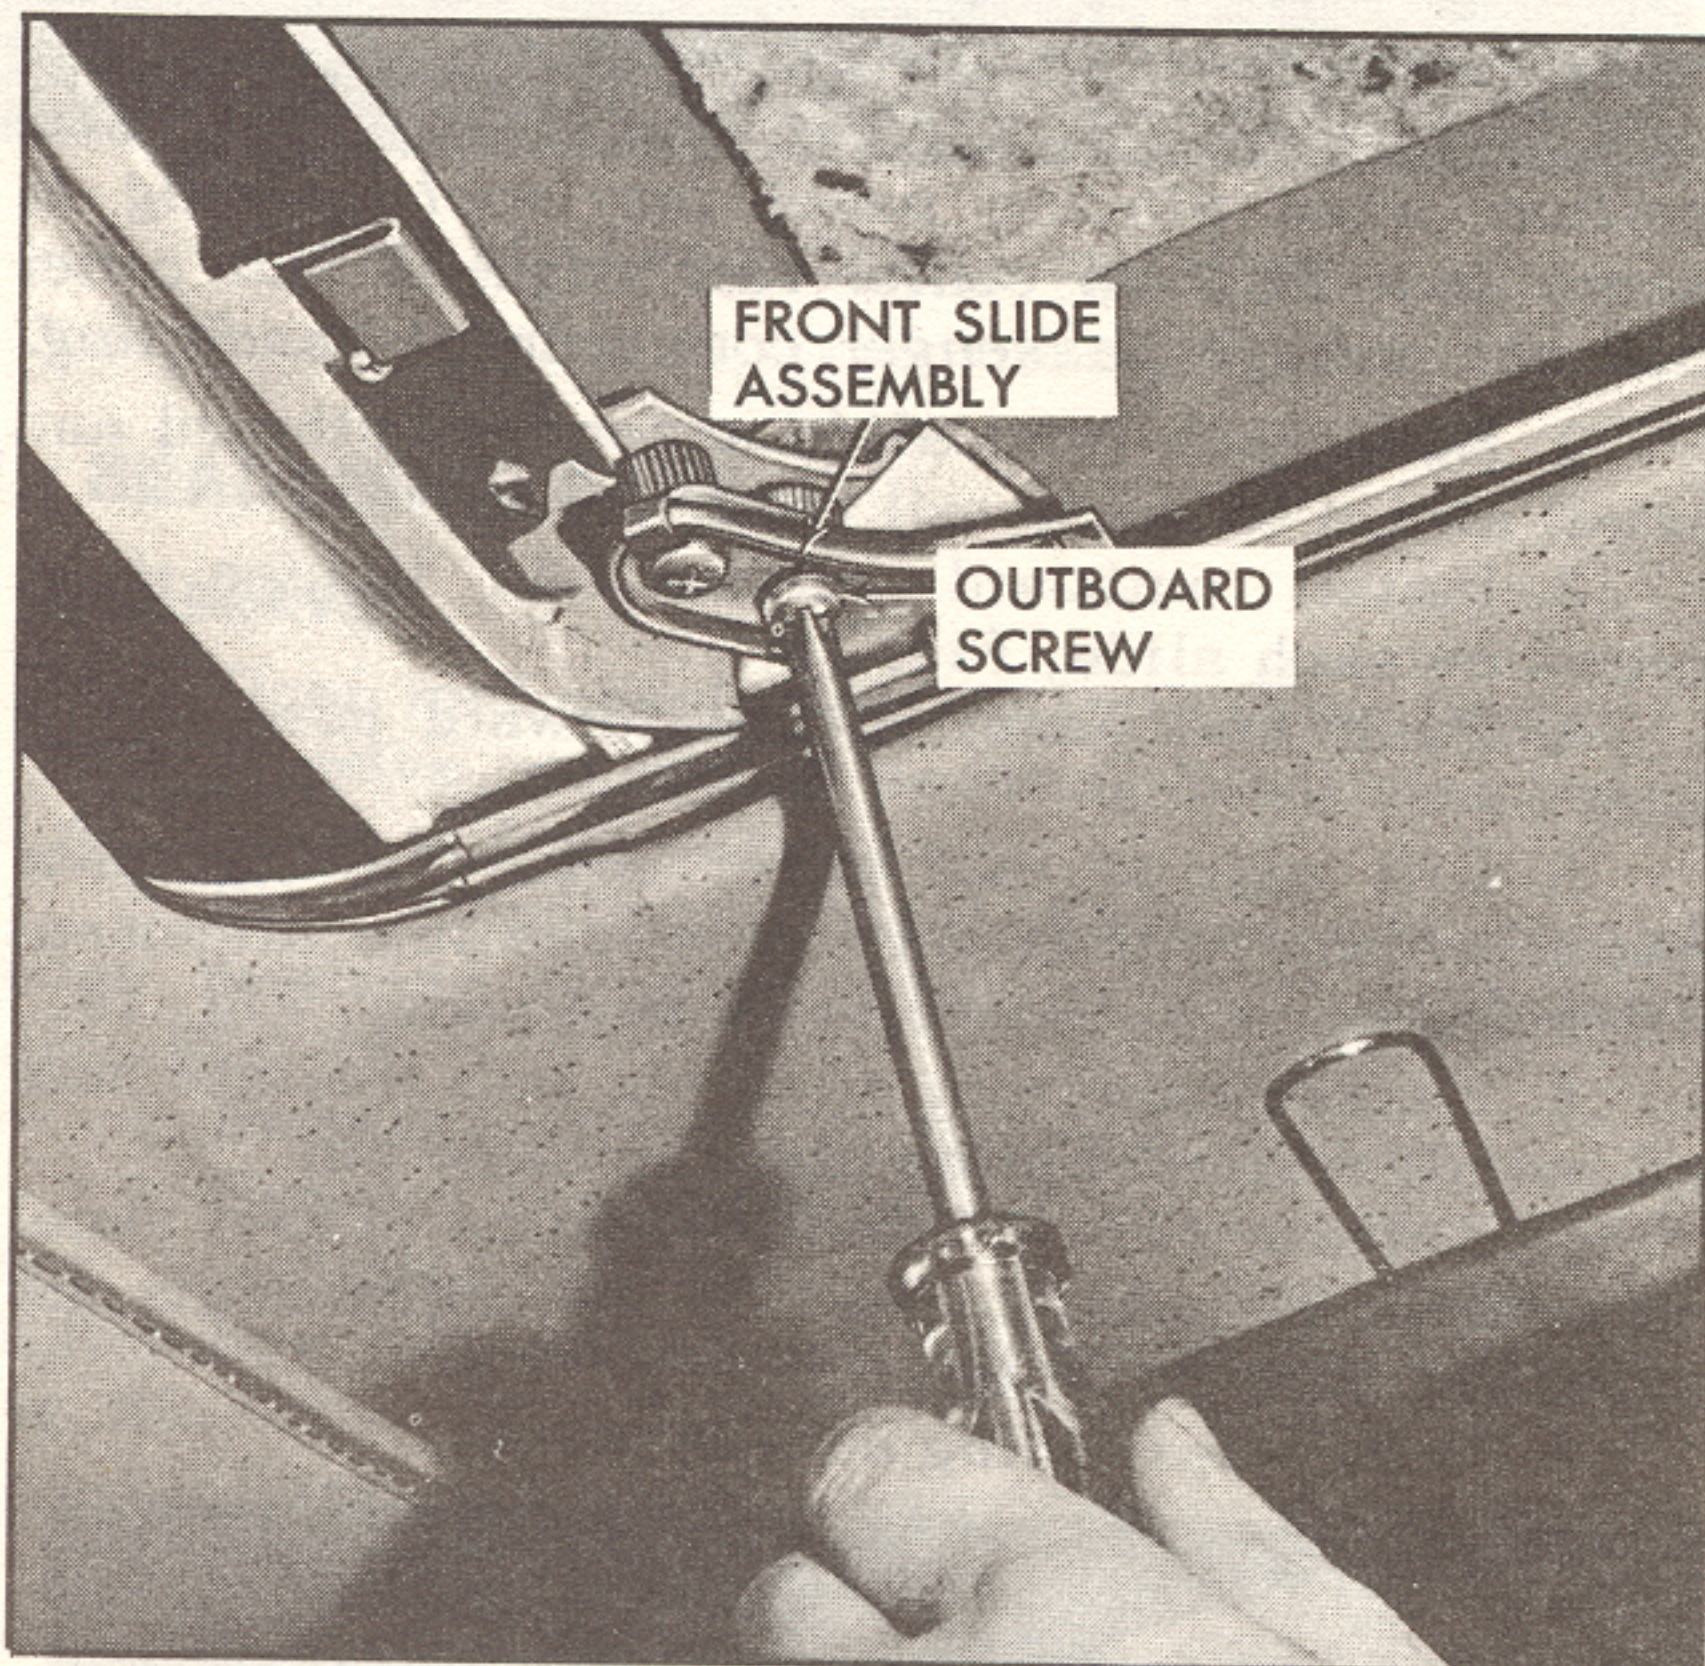

Fig. 17. Removing Outboard Screw From Front Slide Assembly
4. Remove outboard screw from each front slide assembly, Fig. 17.